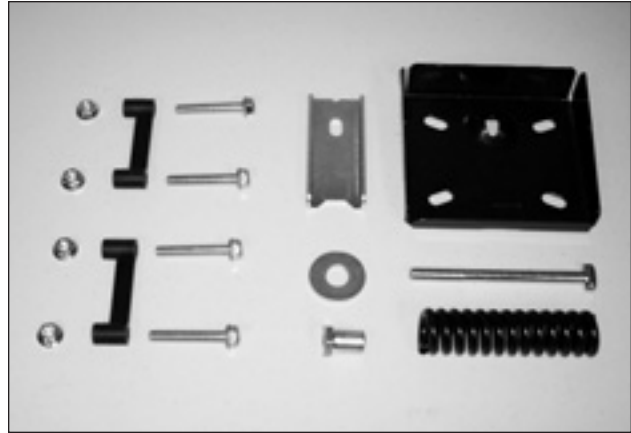

Fig. 12
STEP FOUR: (Requires hardware from B-Ball box #1 - See Fig. 12) Pass 3/8" x 5" T bolt through back side of Slam Jam bracket. "T" part of bolt will nestle in indentation of bracket. Align the 4 holes in this assemble with the 4 matching holes in backboard. Pass four (4) 5/16" x 2" bolts through from front. After bolts pass through backboard but before cross piece, insert a plastic spacer on each side. After cross piece, attach four (4) 5/16" hex flange nuts. (See Fig. 13) Hand tighten only.